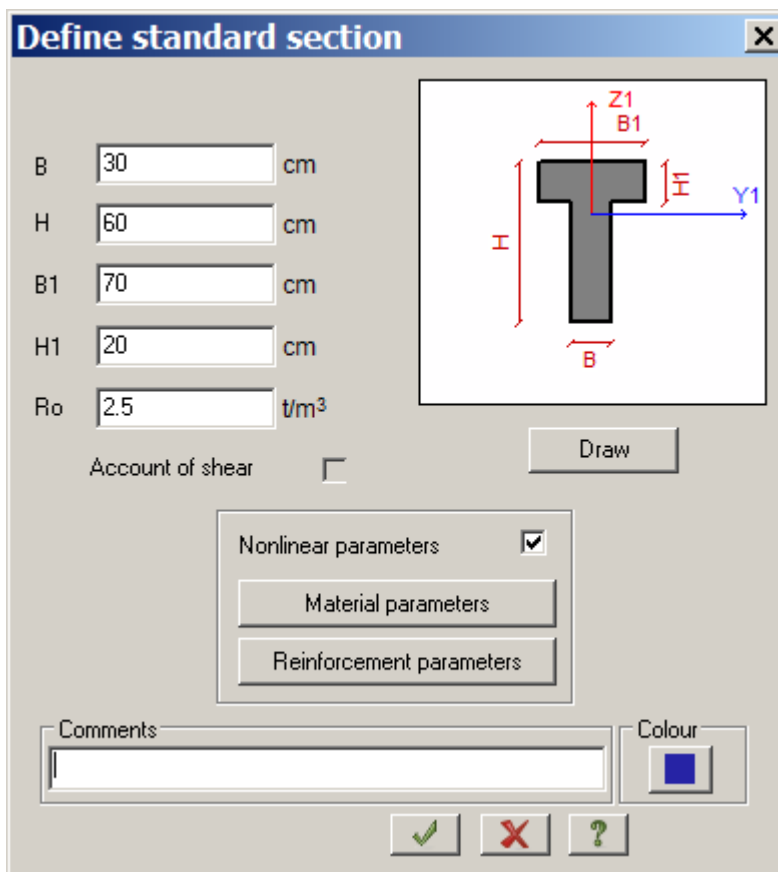

Figure 7.12 Define standard section dialog box
- ⇒ Then specify the following parameters for **T-section (table at the top)** (see Fig.7.12):
- ⇒ To define location and area of reinforcement, in the **Define standard section** dialog box (see Figure 7.12), click **Reinforcement parameters**.